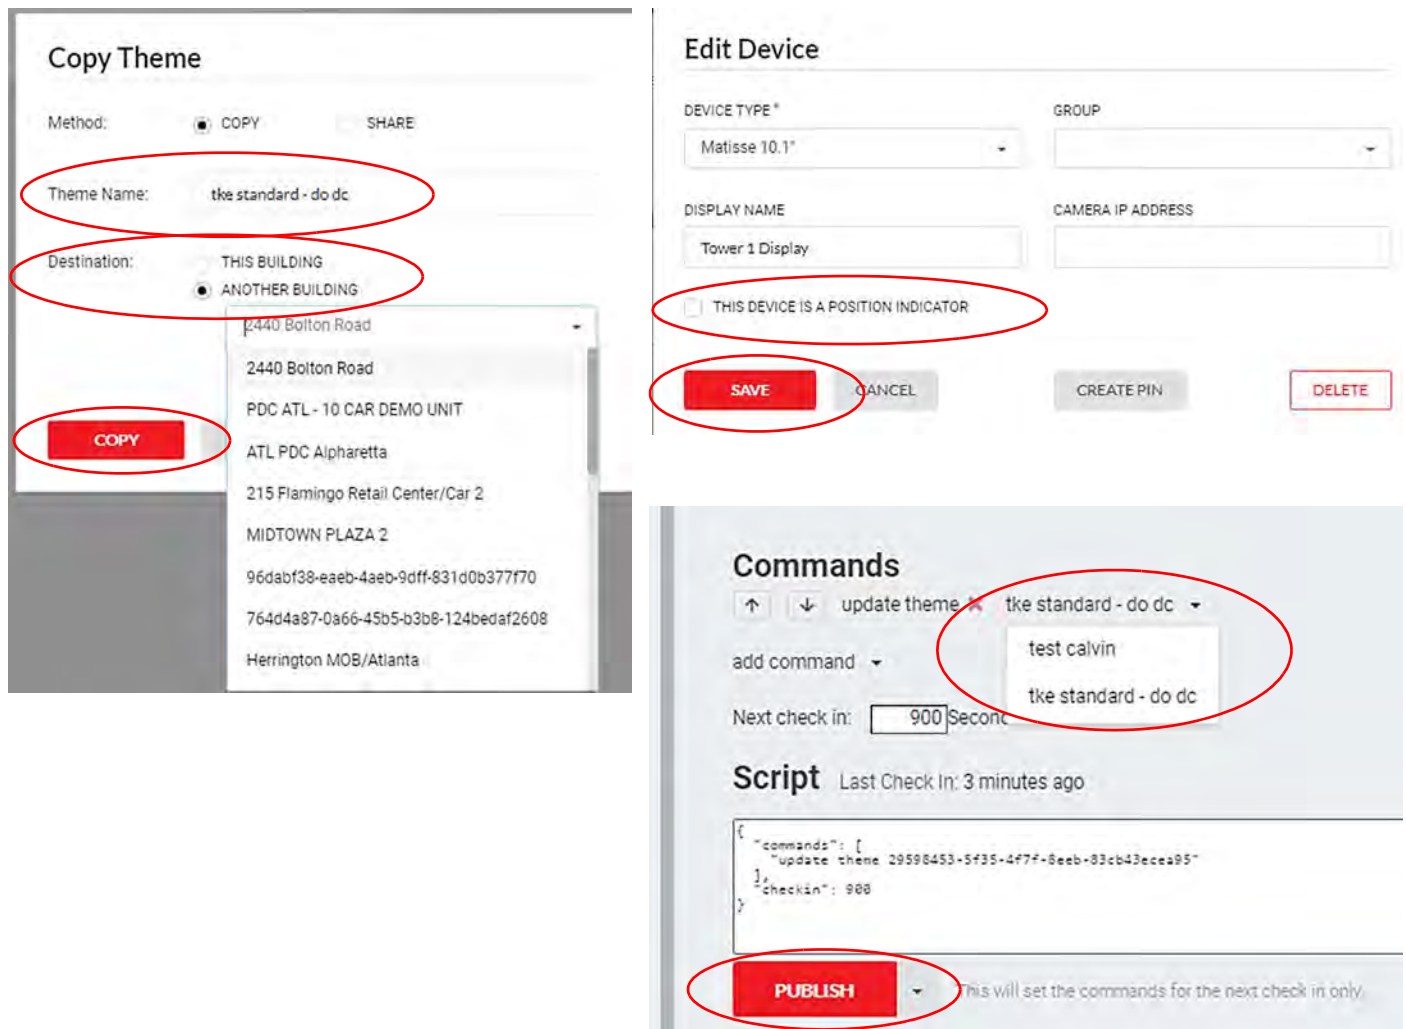

Figure 17 - Schedule Matisse Theme Screen (2 of 2)
3. Once the Copy Theme screen displays, enter theme name, select the target building, and touch **COPY**. See Figure 17.